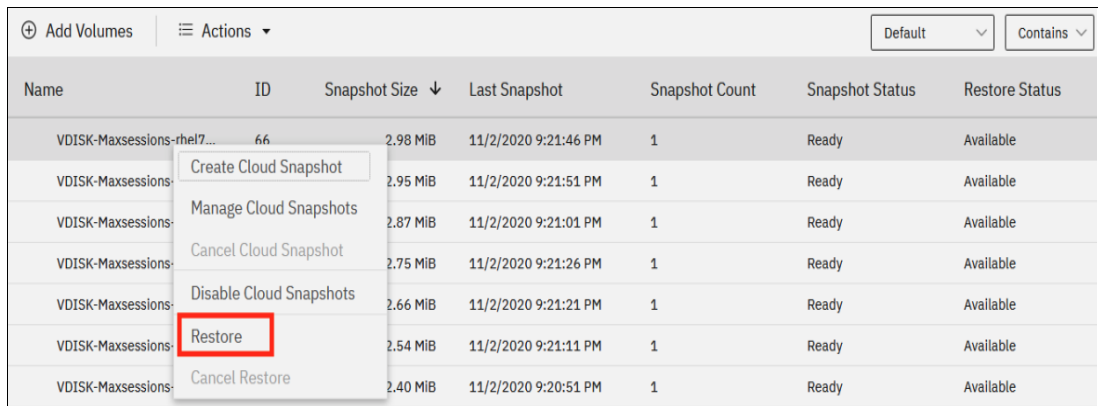

Figure 10-77 Selecting a volume to restore a snapshot from
2. Right-click a volume and select **Restore**, as shown in Figure 10-77.